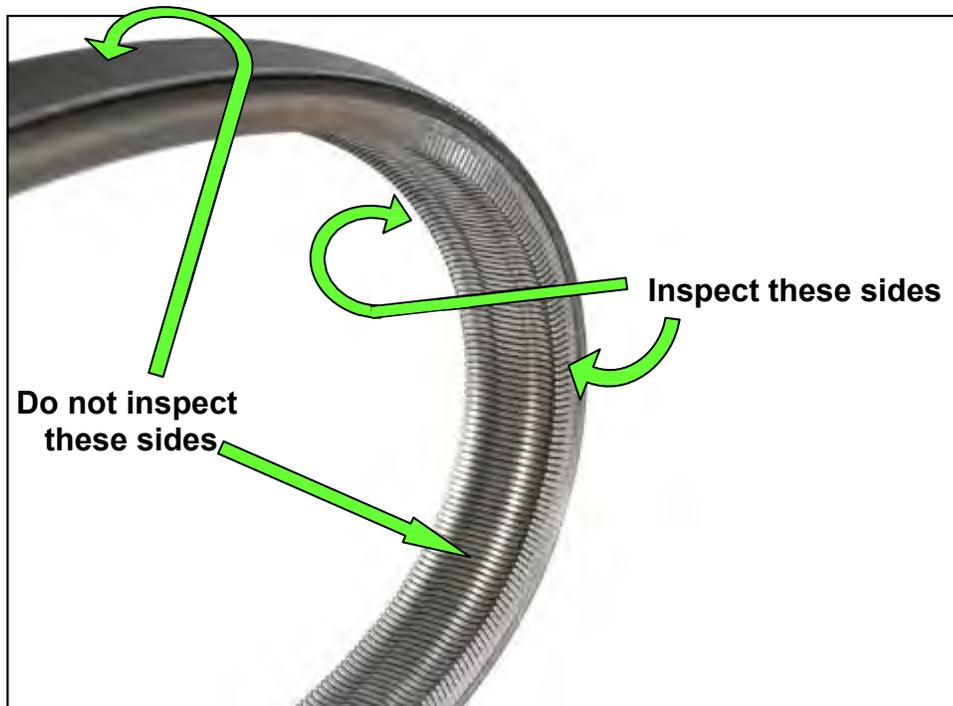

Figure 2C: New belt
3. Using the steps on pages 14-19 inspect the entirety of the two sides of the belt that come in contact with the pulleys (see Figure 2C):